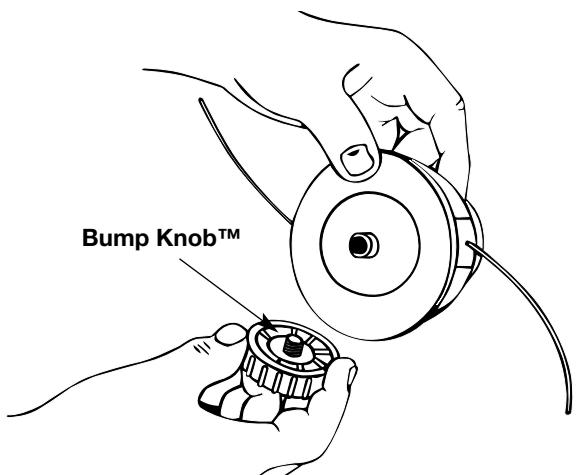

Fig. 18
1. Hold the outer spool with one hand and unscrew the Bump Knob™ **counterclockwise** (Fig. 18). Inspect the bolt inside the Bump Knob to make sure it moves freely. Replace the Bump Knob if damaged.
- Hold the outer spool with one hand and unscrew the Bump Knob **counterclockwise** (Fig. 18). Inspect the bolt inside the Bump Knob to make sure it moves freely. Replace the Bump Knob if damaged.